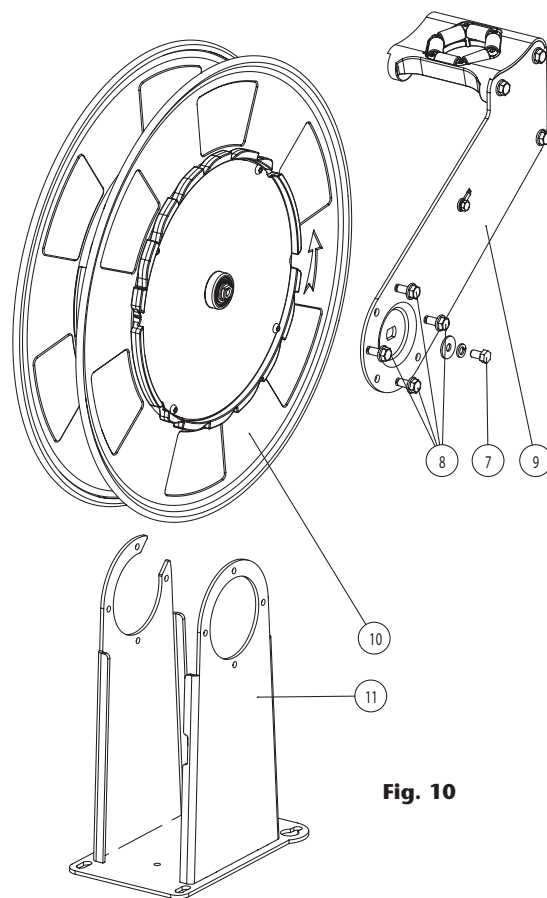

Fig. 10
6. Remove the upper arm (9) (fig.10) loosening the bolt (7) (fig. 10). The spool will be disconnected from the frame. Next, loosen the bolts (8) (fig. 10) and remove the upper arm.